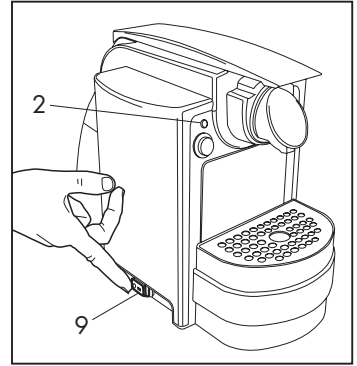

Fig. 4
- Power the coffee machine by turning on the main switch (9). **(Fig.4)**
- When the lamp (2) illuminates, the machine is ready to operate **(Fig.4)**.